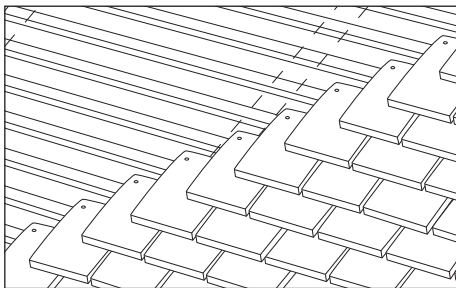

Fig. 5 – Completion of tiling
- 2 Work from right to left (Fig. 5). Depending on fixing specifications, you may leave out third and fourth tiles from left-hand verge and make use of tile battens as a ladder enabling upper part of roof to be reached for fixing ridges.